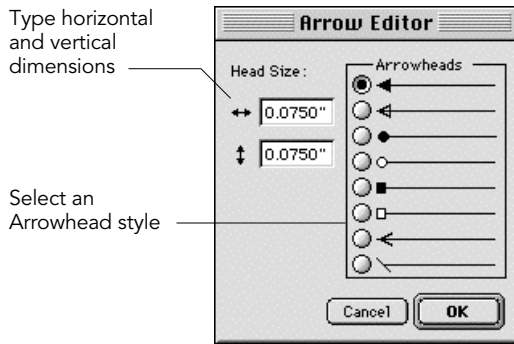

Fig. 196 The Arrow Editor dialog box
2. Double-click an Arrowhead you created that you want to edit. The Arrow Editor dialog box appears (*figure 196*).